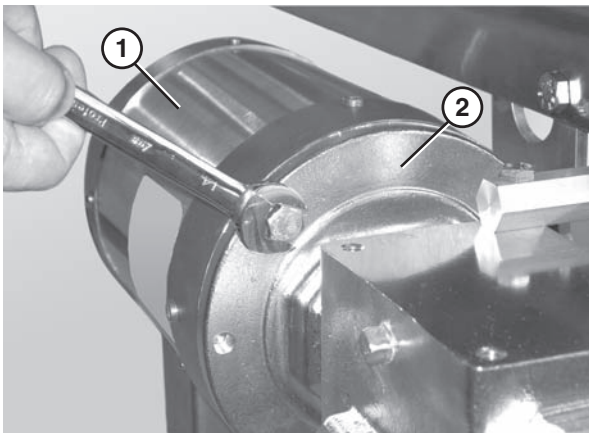

Figure 21
5. Remove the bolts that connect the motor (Figure 21, item 1) to the gear reducer (Figure 21, item 2).